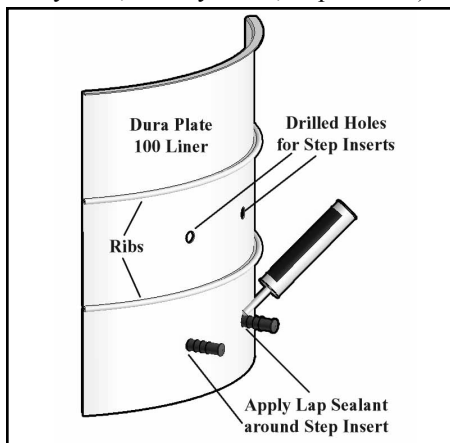

Figure 4 - Casting in Polypropylene Step Insert
8.1.1 Steps shall be attached by either casting a preformed polypropylene insert to accept a polypropylene drive in step (Fig. 4), or by casting or drilling a precise hole to accept a polypropylene press fit step (Fig. 4A), as per the recommendations of the step manufacturer.